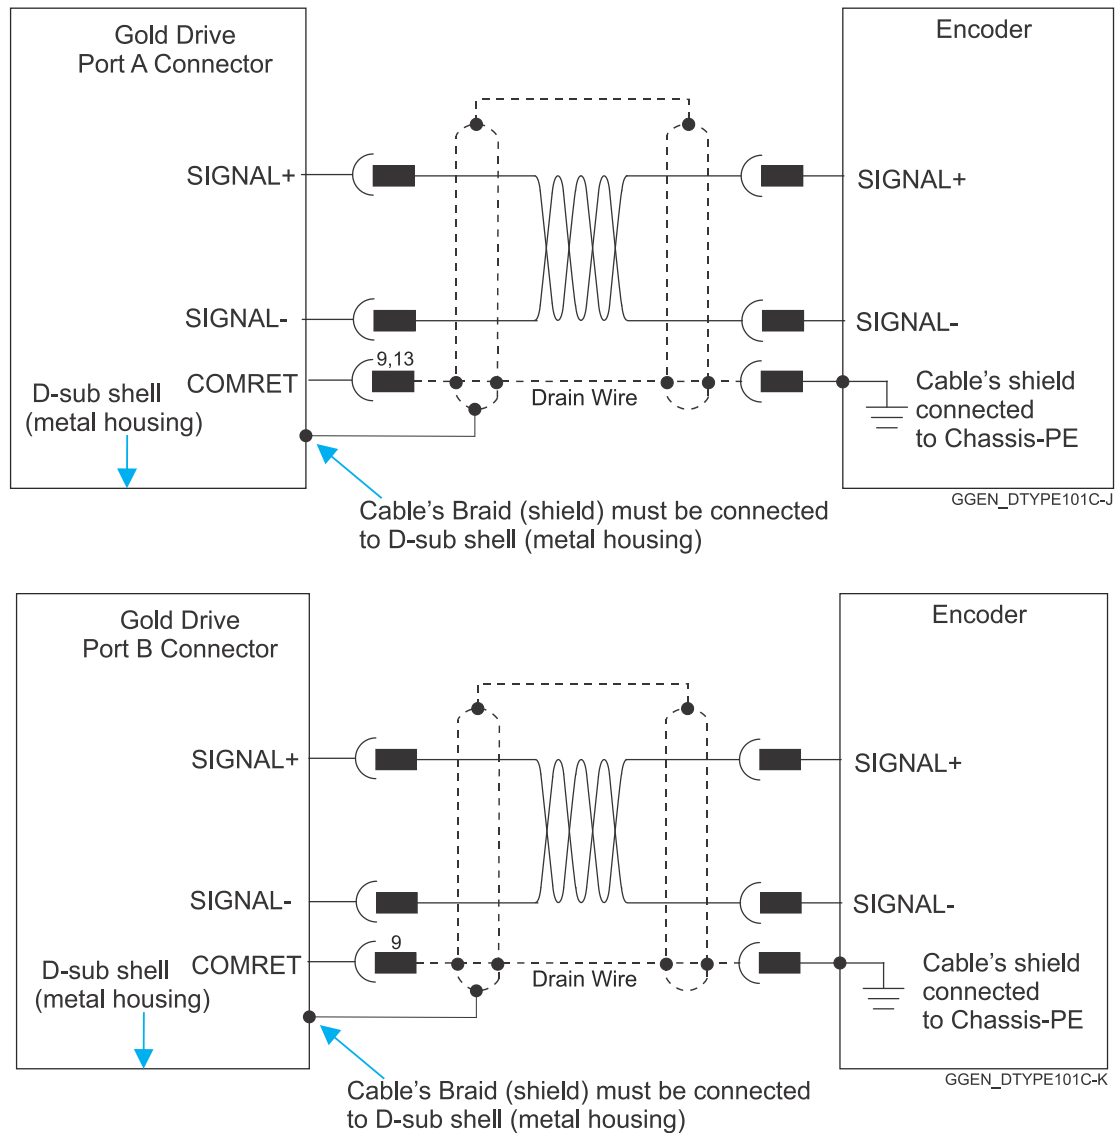

Figure 8: Feedback Port A and B Cable Assemblies
- a. At the drive, connect the feedback drain wire to one of the COMRET terminals in the D-Type feedback connector (Figure 8).